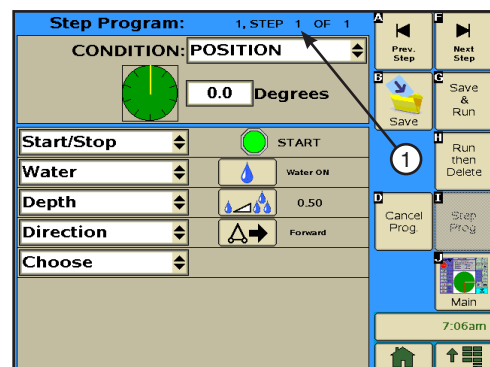

Figure 118-3 1. Step 1
Step 1 of the program is displayed. Refer to Figure 118-3.